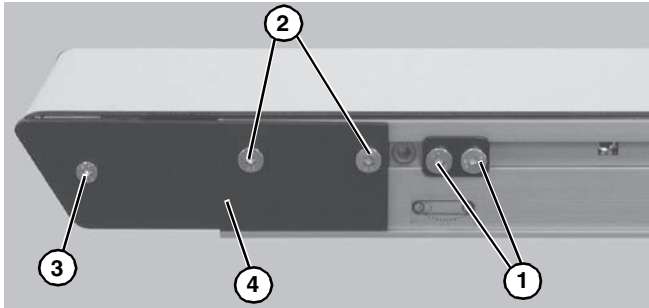

Figure 42
1. On both sides of conveyor, use a 4 mm hex-key wrench to loosen cam fastening screws (**Figure 42, item 1**) and slide cam assemblies toward the center of the conveyor.
2. On both sides of conveyor, use a 4 mm hex-key wrench to loosen head plate fastening screws (**Figure 42, item 2**) to remove belt tension. Then remove belt from end of conveyor.
3. On one side of conveyor, use a 3 mm and 4 mm hex-key wrench to remove head plate fastening screws (**Figure 42, item 3**) & (**Figure 42, item 2**) and remove head plate (**Figure 42, item 4**).
5. After replacing bearings, re-install head plate (**Figure 42, item 4**). Use a 3 mm hex-key wrench to tighten one (1) fastening screw (**Figure 42, item 3**) to 30 in-lb (3.4 Nm). Leave two (2) fastening screws (**Figure 42, item 2**) loose for belt tensioning.